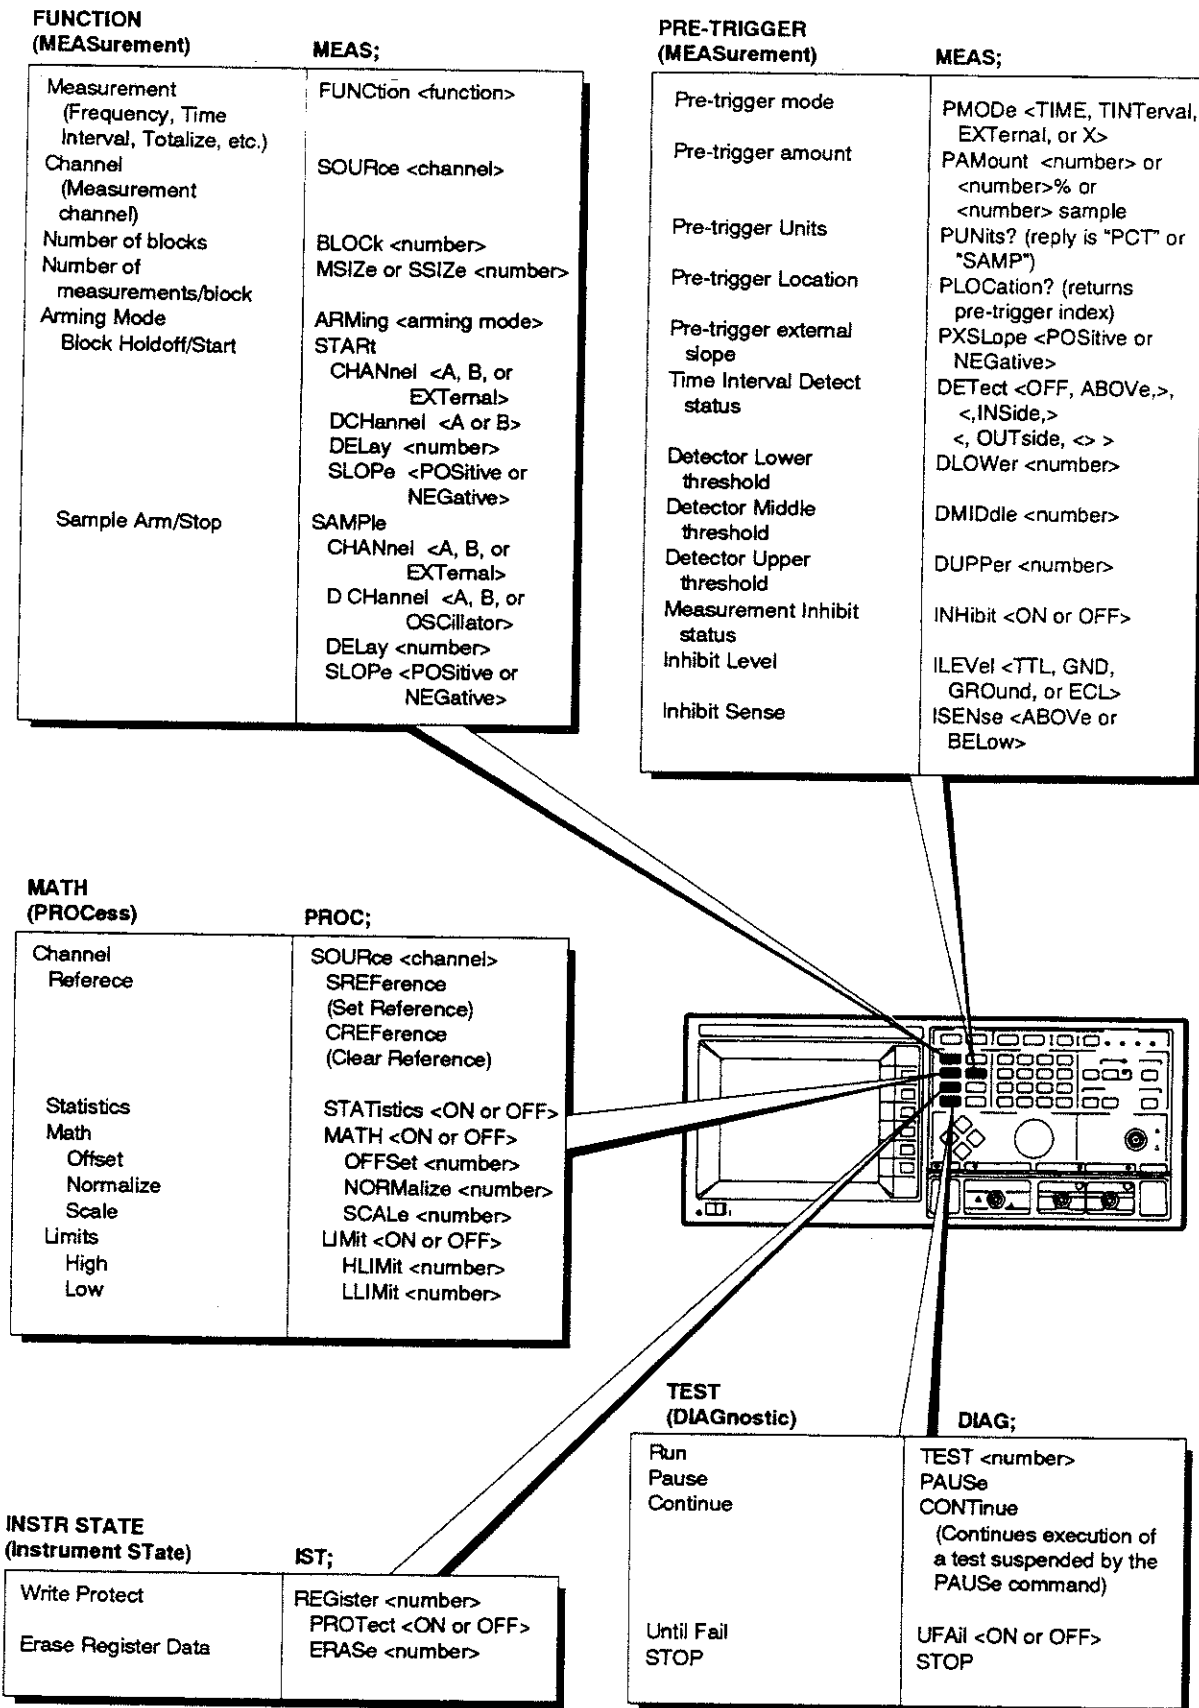

Figure 4-2. Relationship of Command Structure to Front Panel Controls (1 of 3)
*Figure 4-2* illustrates how front panel display choices relate to corresponding HP-IB commands. For each functional group a two-column table maps the relationship.